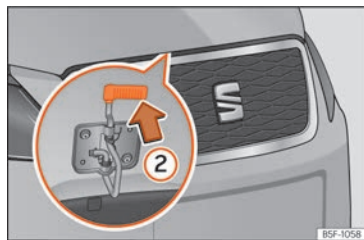

Fig. 309 Cam under the bonnet
- To lift the bonnet, press the release catch under the bonnet upwards »» Fig. 309 ②. The arrester hook under the bonnet is released.